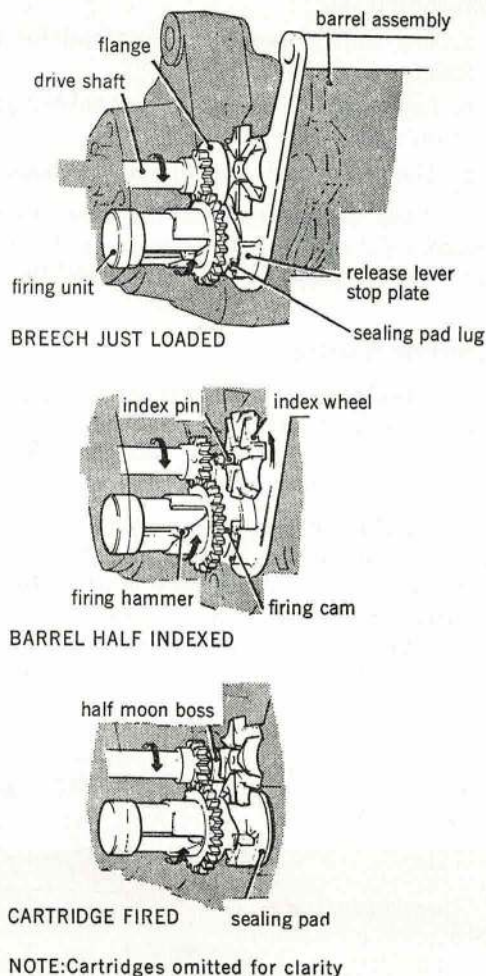
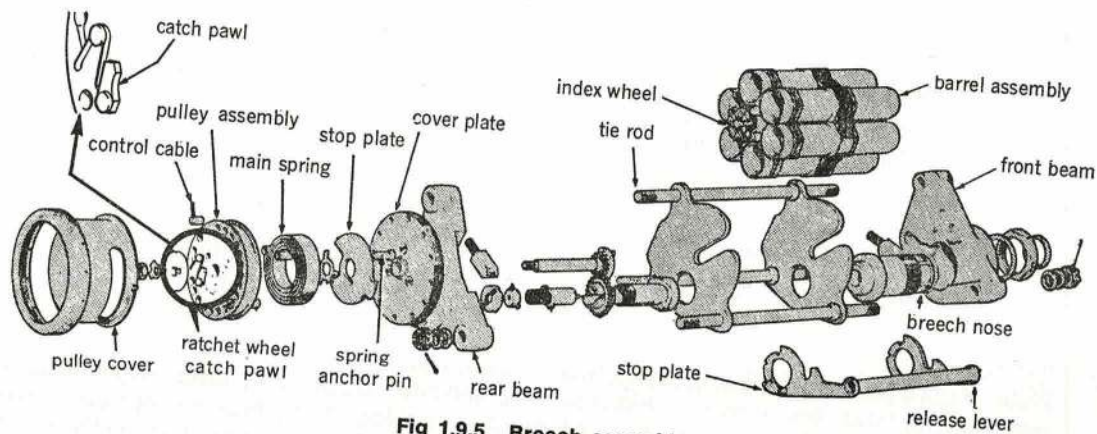

Fig 1.9.4 Indexing mechanism
Fig 1.9.5 Breech assembly
15. The revolving magazine may be fixed or removable, and each cartridge may be brought into position by a remote control cable from the cockpit. On the removable type breech, when the indexing mechanism is operated, initial movement of the pulley cable rotates a pulley in a clockwise direction to engage a pawl in the ratchet wheel and rotate the barrel assembly (*see* Fig 1.9.5). At the same time, the firing unit is rotated until the lug on the sealing pad abuts the end of the stop plate on the release lever, as illustrated at Fig 1.9.4. Rotation of the pulley also loads the main spring. Movement of the pulley then indexes the barrel assembly one-sixth of a turn to bring the next barrel in line with the firing unit and simultaneously rotates the firing cam, relative to the sealing pad and the firing hammer. When the indexing movement is complete, the half-moon boss on the drive shaft locates in the crescent in the index wheel to lock the barrel, and the firing cam then pushes the sealing pad into the barrel (Fig 1.9.4).
21. A breech assembly is illustrated at Fig 1.9.5.
Note: Before removing a starter barrel when a cartridge has been indexed but not fired, you may tap the rear beam with a hide-faced hammer (or similar soft faced implement) to attempt to dislodge the firing hammer and fire the cartridge. If this fails, remove the starter pulley cover and check the position of the catch pawl. If the pawl is engaged in the notch on the ratchet wheel, the movement is complete and it is safe to remove the barrel assembly. If the pawl is not engaged, turn the drive shaft nut anti-clockwise until the firing mechanism is turned BACK to the safe position (*ie* the pawl is engaged in the notch on the ratchet wheel (Fig 1.9.5).